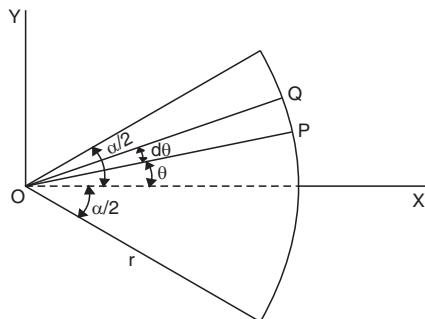

Fig. 7.33
**Example 7.12.** Determine the c.g. of the area of a sector of angle  $\alpha$  of a circle of radius  $r$  as shown in Fig. 7.33.
**Sol.** Refer to Fig. 7.33.